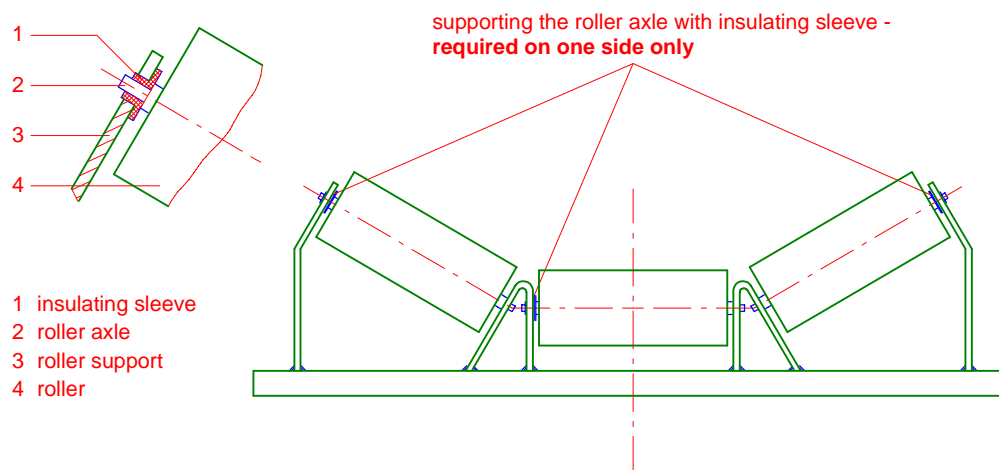

Fig. 5 Fault elimination on the rollers using insulating bushes
It is very important to carefully clear all faults at the installation site so that the metal detector reliably achieves the required sensitivity even under production conditions and false alarms are avoided. The most important interference suppression measures are shown in Figs. 5 to 9.
- Store the carrying rollers adjacent to the probe in plastic bushings (Fig. 5). If there are no high demands on the sensitivity of the metal detector or if no plastic bushings can be used, then short-circuit brackets are to be used to suppress interference from the support rollers (Fig. 6 and 7).